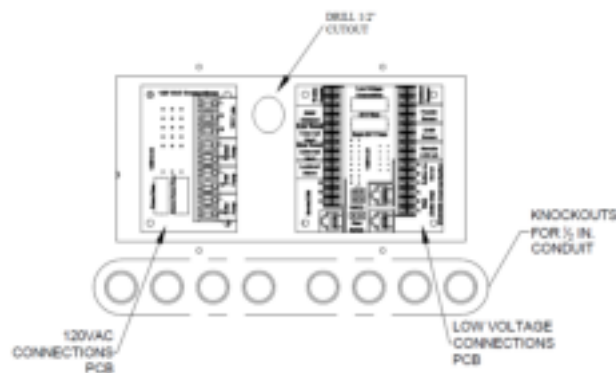

Figure 6: Apex Boiler Junction Box, Located on Upper Left Side of Boiler.
1. Remove boiler junction box cover which is located top left side of the boiler. Inside the junction box there are two printed circuit boards (PCB's), 120 VAC Connections on the left and Low Voltage Connections on the right. Refer to figure 6.
2. Drill a 1/2 inch diameter hole through the boiler inner jacket located in between the two printed circuit boards for field wiring connections. Refer to figure 6.